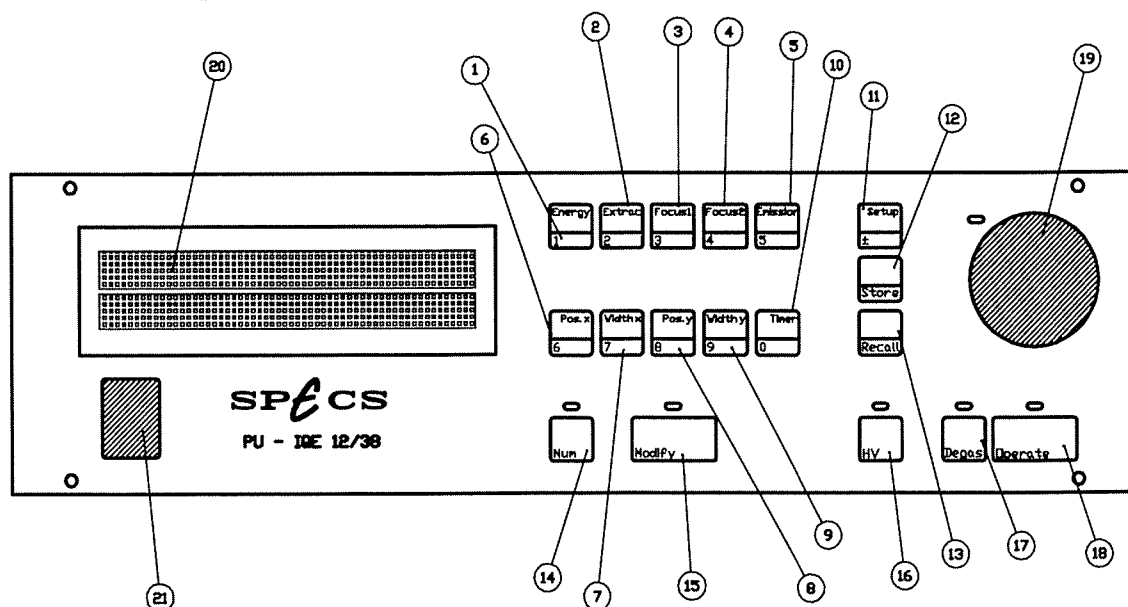
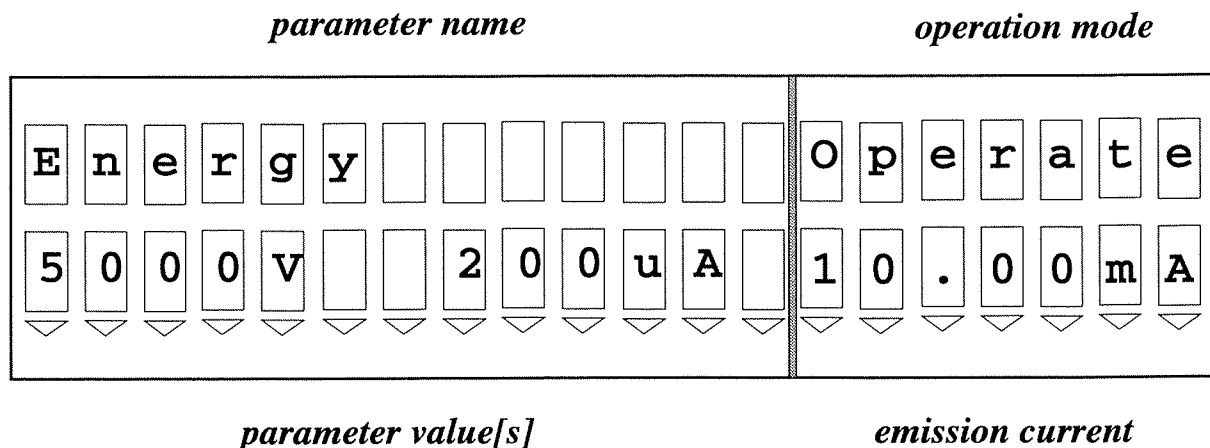

FIGURE 4 Frontpanel of the PU IQE - 12/38
FIGURE 5 Display of the IQE - 12/38
The parameter menus (key 1 to 11 of figure 4) are used to show the current applied values and to adjust the parameters of the Power Unit. The parameter to change or to observe is selected directly by pressing the key with the parameter name written on it. The name of the selected parameter appears on the display as depicted in figure 5.